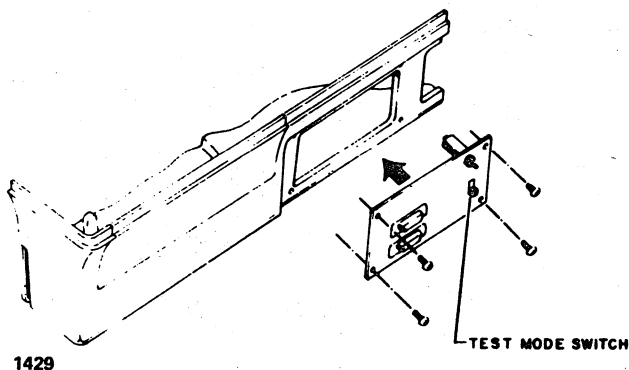

Figure 6-8. TEST MODE Switch Removal
2. Remove the four mounting screws that hold the panel to the chassis (figure 6-8).